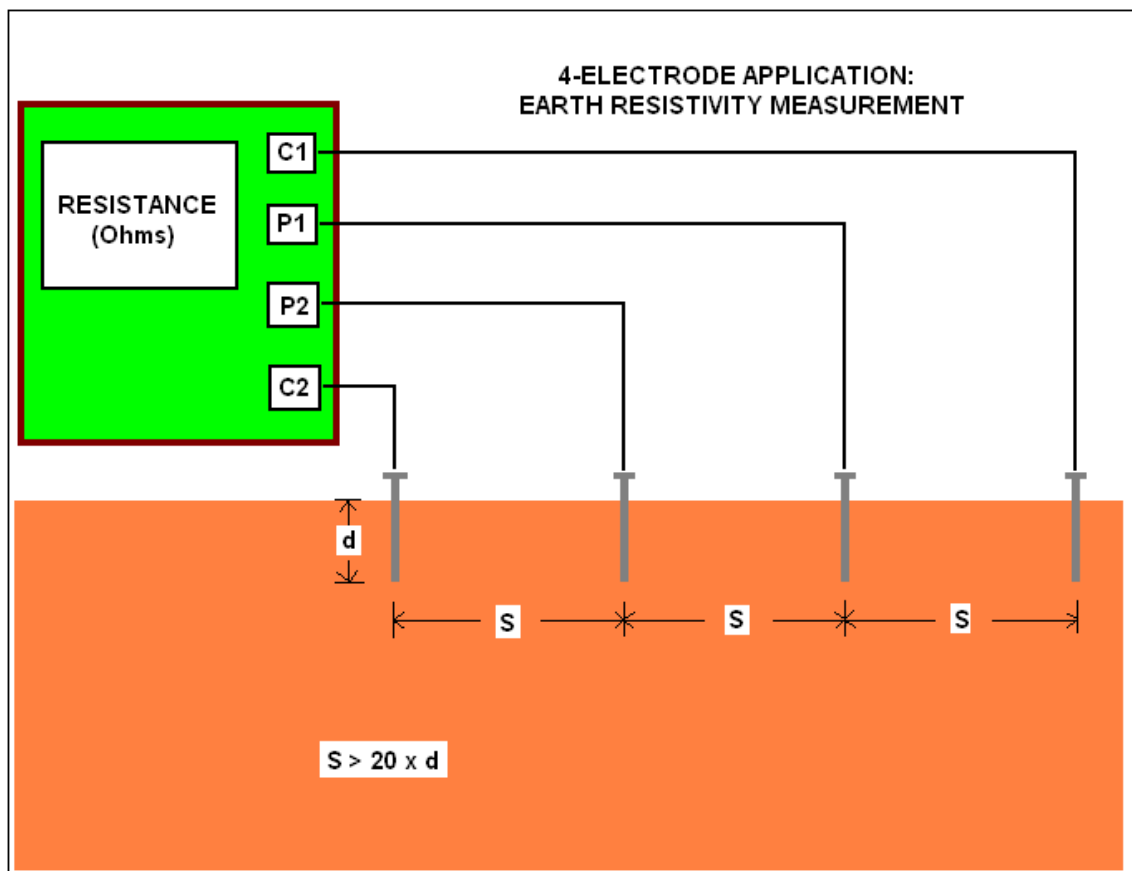

Figure 1
This application uses 4 electrodes (pins). The electrodes are driven down into the earth the same distance and are evenly spaced in a straight line. A schematic of this arrangement is illustrated in Figure 1 below.
The MILLER-400D can be used in conjunction with M. C. Miller's 4-lead (color-coded) test reel (catalog # 44700) and four heavy-duty (stainless steel) electrodes (soil pins) – catalog # 44720. The test leads are connected to the MILLER-400D as shown in Figure 1. With this arrangement, the MILLER-400D displays the earth's average resistance to a depth equal to the electrode spacing (S), based on the magnitude of the current flowing